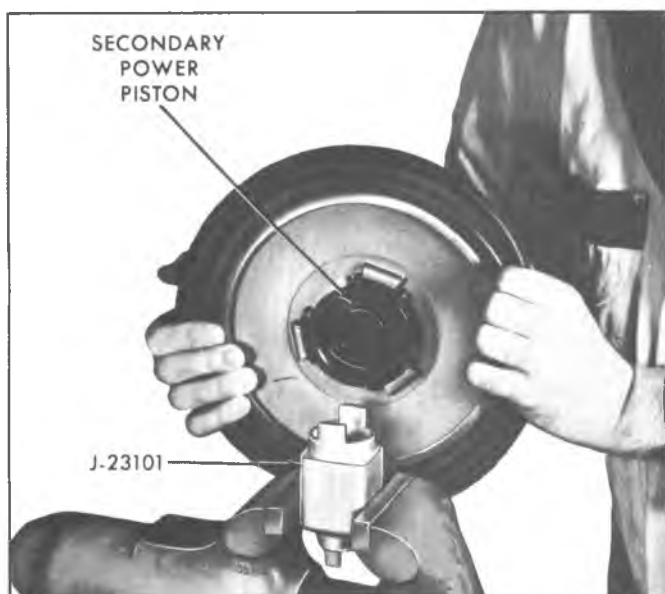

Fig. 4B--Positioning Secondary Power Piston in Tool J-23101 (Large Dia. End Up)
3. Mount double-ended Tool J-23101 (with large diameter end up) in a vise. Position the secondary power piston so that the two radial slots in the piston fit over the ears (tang) of the tool (fig. 4B).
20. Mount Tool J-23101 (with large diameter end up) in a vise. Position the secondary power piston so that the radial slots in the piston fit over the ears (tangs) of the tool. Apply a light coat of Delco Silicone Lube #5459912 (or equivalent) to the tube of the secondary power piston (fig. 4B).